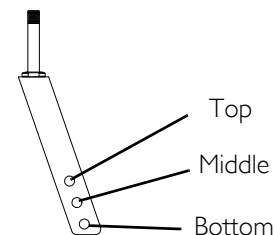

FIGURE 10.1 Changing Seat-to-Floor Height
NOTE: For this procedure, refer to FIGURE 10.1 on page 37.
1. Refer to the following chart in FIGURE 10.1 to determine mounting positions for front casters/forks and rear wheels for the desired obtainable seat-to-floor height: